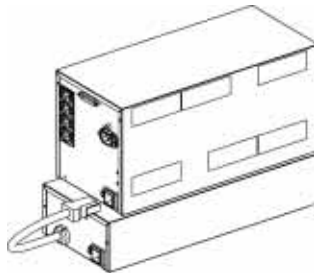

fig. 2: ON Series UPS and External Battery Connections
1. Connect the battery cable from the closest battery enclosure to the external battery receptacle on the UPS, see fig. 2.